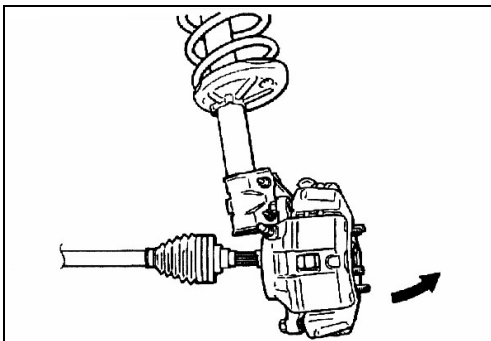

Fig.12-23
b. Withdraw the drive shaft from the hub by pulling the bottom of the brake disc towards you, and then remove the hub retaining bolts.(see Fig.12-23)。